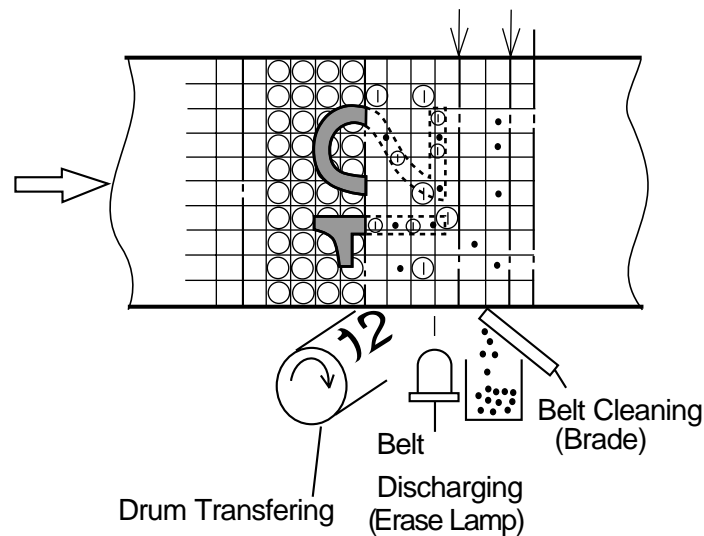

Fig.4-18
- ②. Luminous source of erase lamp is the 24 pieces of light emitting diodes (LED).
(2). Process of Discharging (Fig.4-18)
- ①. Though a toner image is transferred to the transfer drum in the drum transfer process, there is still a residual charge on the OPC belt.
- ②. Residual charge $-VR(V)$ on the OPC belt is discharged by the radiation of erase lamp's light prior to cleaning the belt.